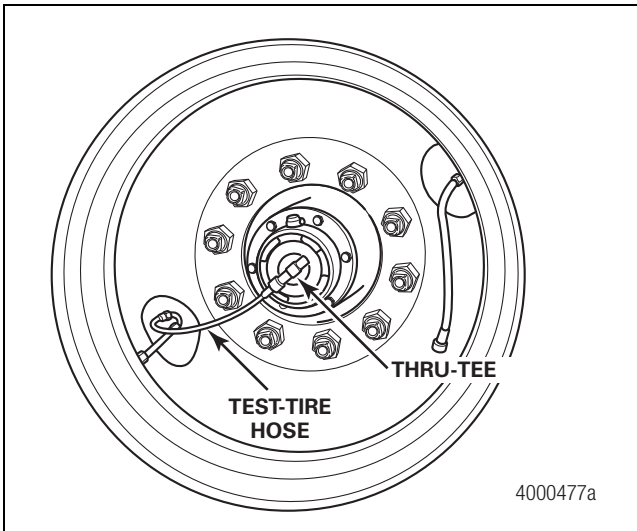

Figure 3.8
9. Choose a tire to test. Hand-tighten the hose to the thru-tee. Figure 3.8.